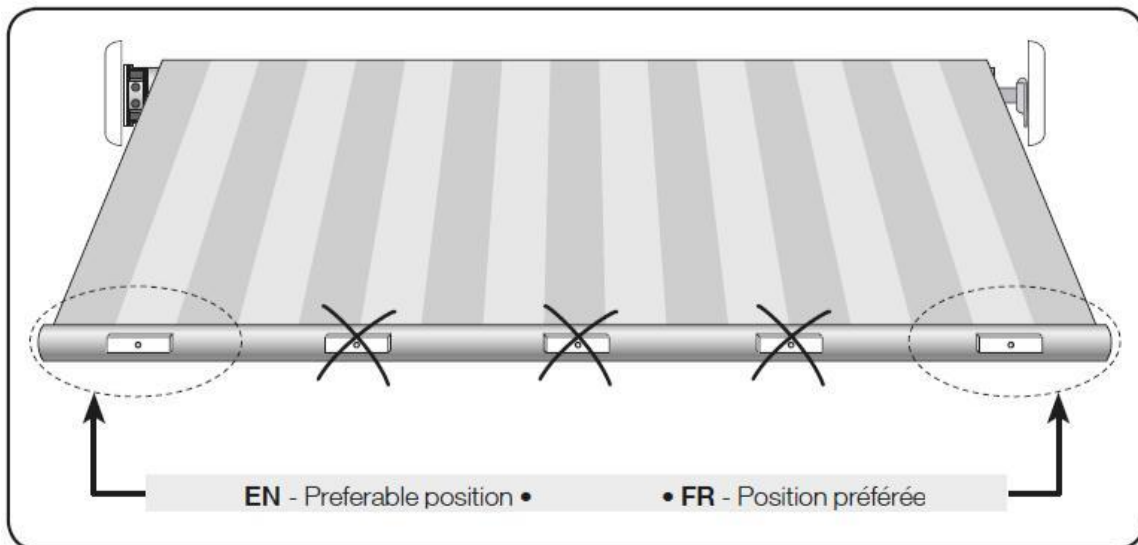

**Figure 17**
1. **Open the sensor by pushing the cover in the direction of the arrow, the cover will slide about ¼", you will then be able to remove the cover. See figure 17.**